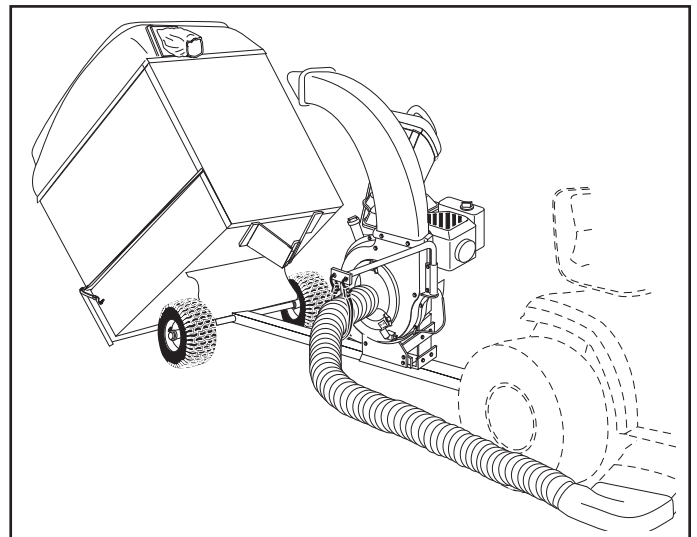

FIGURE 28
9. Release the latch holding cart down to the tongue by pulling up on the latch lever. See figure 28.